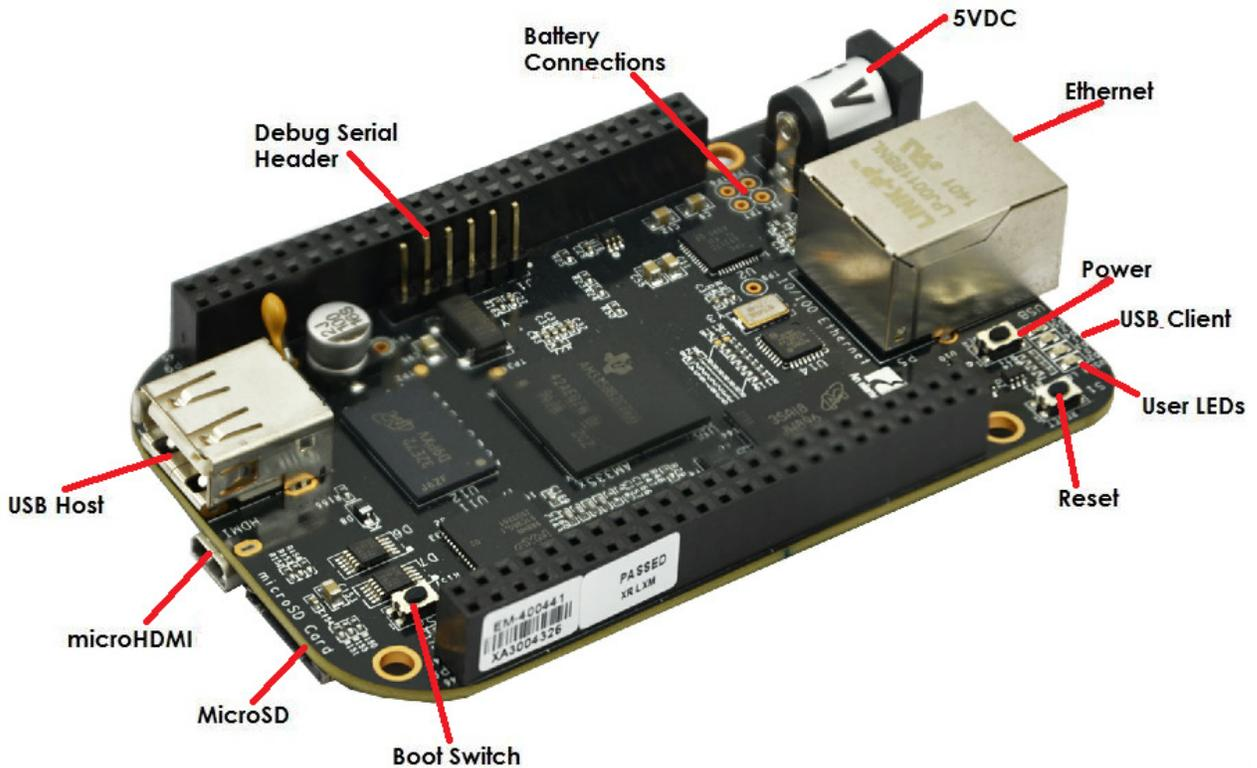

Figure 17 Connectors, LEDs and Switches
**Figure 17** below shows the locations of the connectors, LEDs, and switches on the PCB layout of the board.